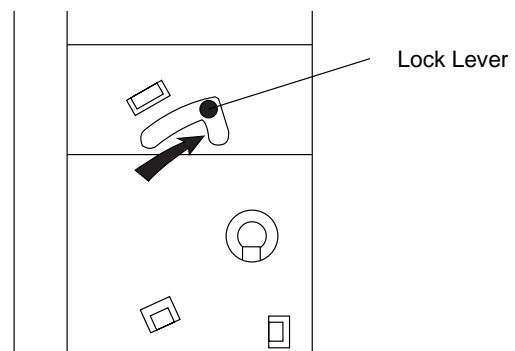

Figure 8-3
- How to open the changer manually. (Fig. 8-3)